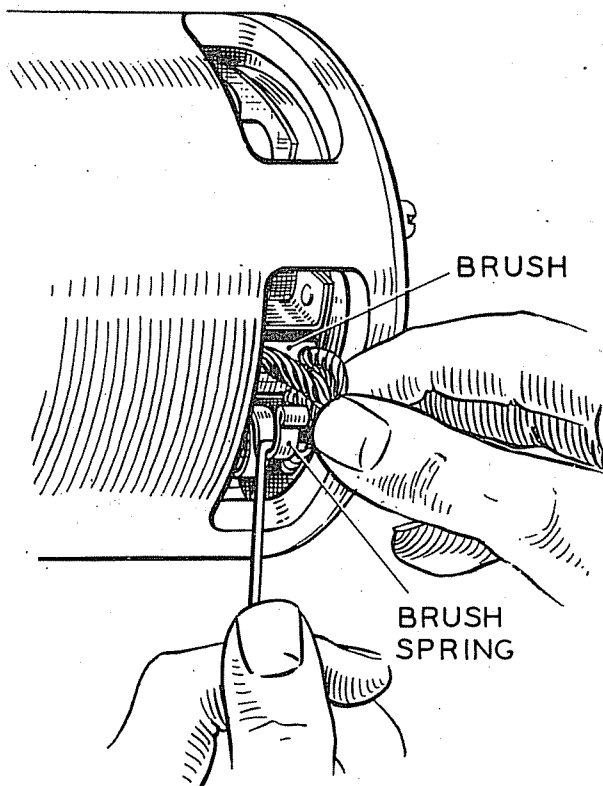

Fig. 23—Checking Brush Gear.
(2) After removing the starting motor from the engine, secure the body in a vice and test by connecting it with heavy gauge cables to a battery of the appropriate voltage. One cable must be connected to the starter terminal and the other held against the body or end bracket. Under those light load conditions, the starter should run at a very high speed.
(3) If the operation of the starting motor is unsatisfactory, remove the cover band and examine the brushes and commutator. Hold back each of the brush springs and move the brush by pulling gently on its flexible connector (See Figure 23). If the movement is sluggish, remove the brush from its holder and ease the sides by lightly polishing on a smooth file. Always replace brushes in their original positions. If the brushes are worn so that they will not bear on the commutator, or if the brush flexible is exposed on the running face, they must be replaced (See Para. 16d).